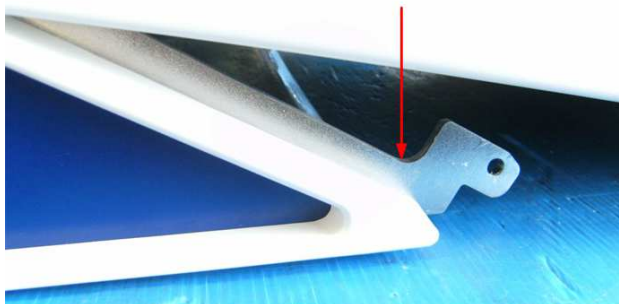

Figure 6 : Footrest's retainer
- 5) Lift up the platform to unlock the footrest retainer (see *Figure 6*).